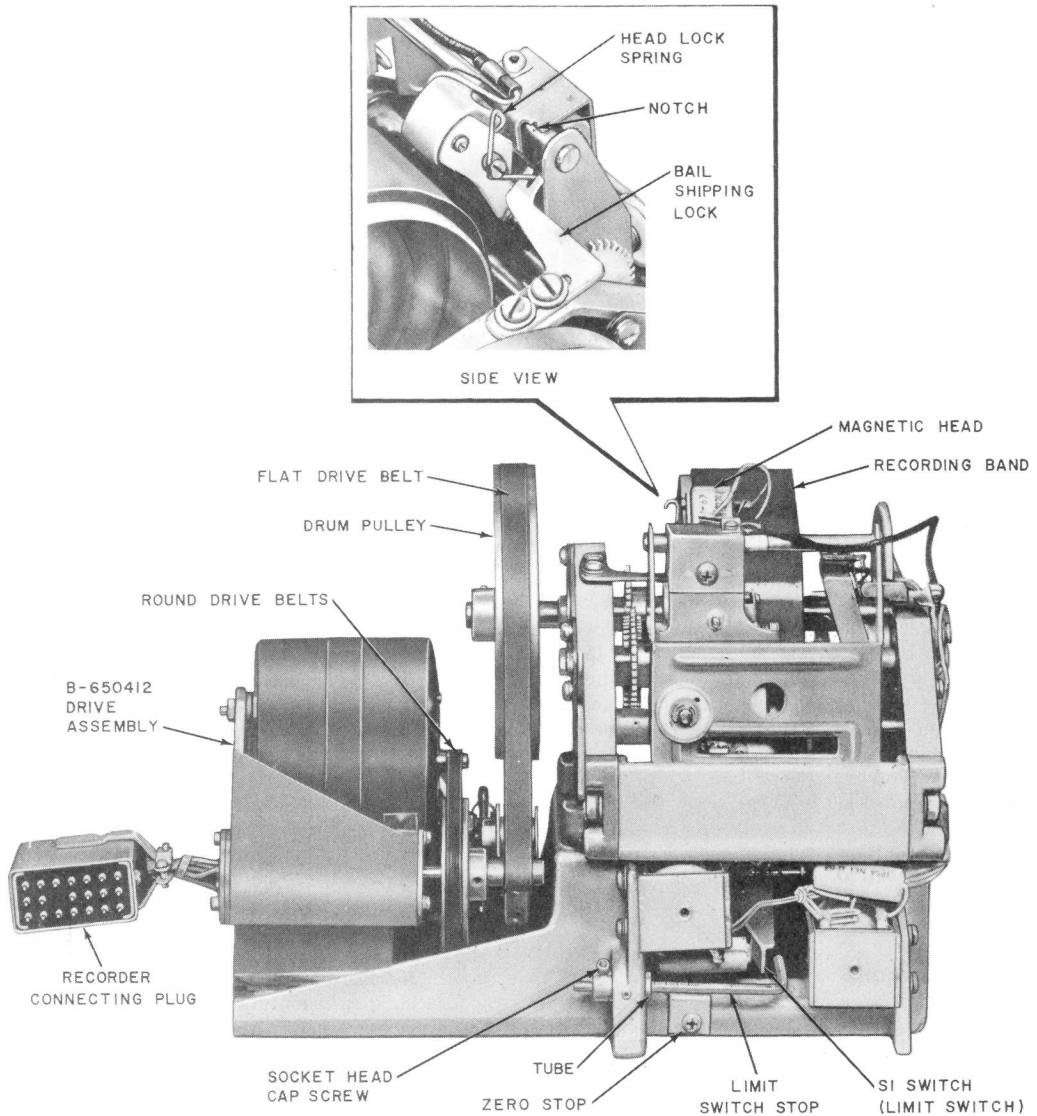

Fig. 7—KS-16765, List 3 Recorder
2.14 To release bail shipping lock (Fig. 7):
2.15 To remove head lock spring (Fig. 7):
**2.16 Announcement length adjustment:** The announcement set is shipped with the announcement length adjusted for 30 seconds, however this adjustment may be set for any interval up to the maximum capacity by adjustment of the limit switch stop (Fig. 7). The seven marks on the limit switch stop may be used as guides for setting the maximum announcement recording interval.
- (1) Loosen socket head cap screw (Fig. 7).
- (2) Position limit-switch stop to desired setting; flush with left side of tube.
- (3) Tighten socket head cap screw.